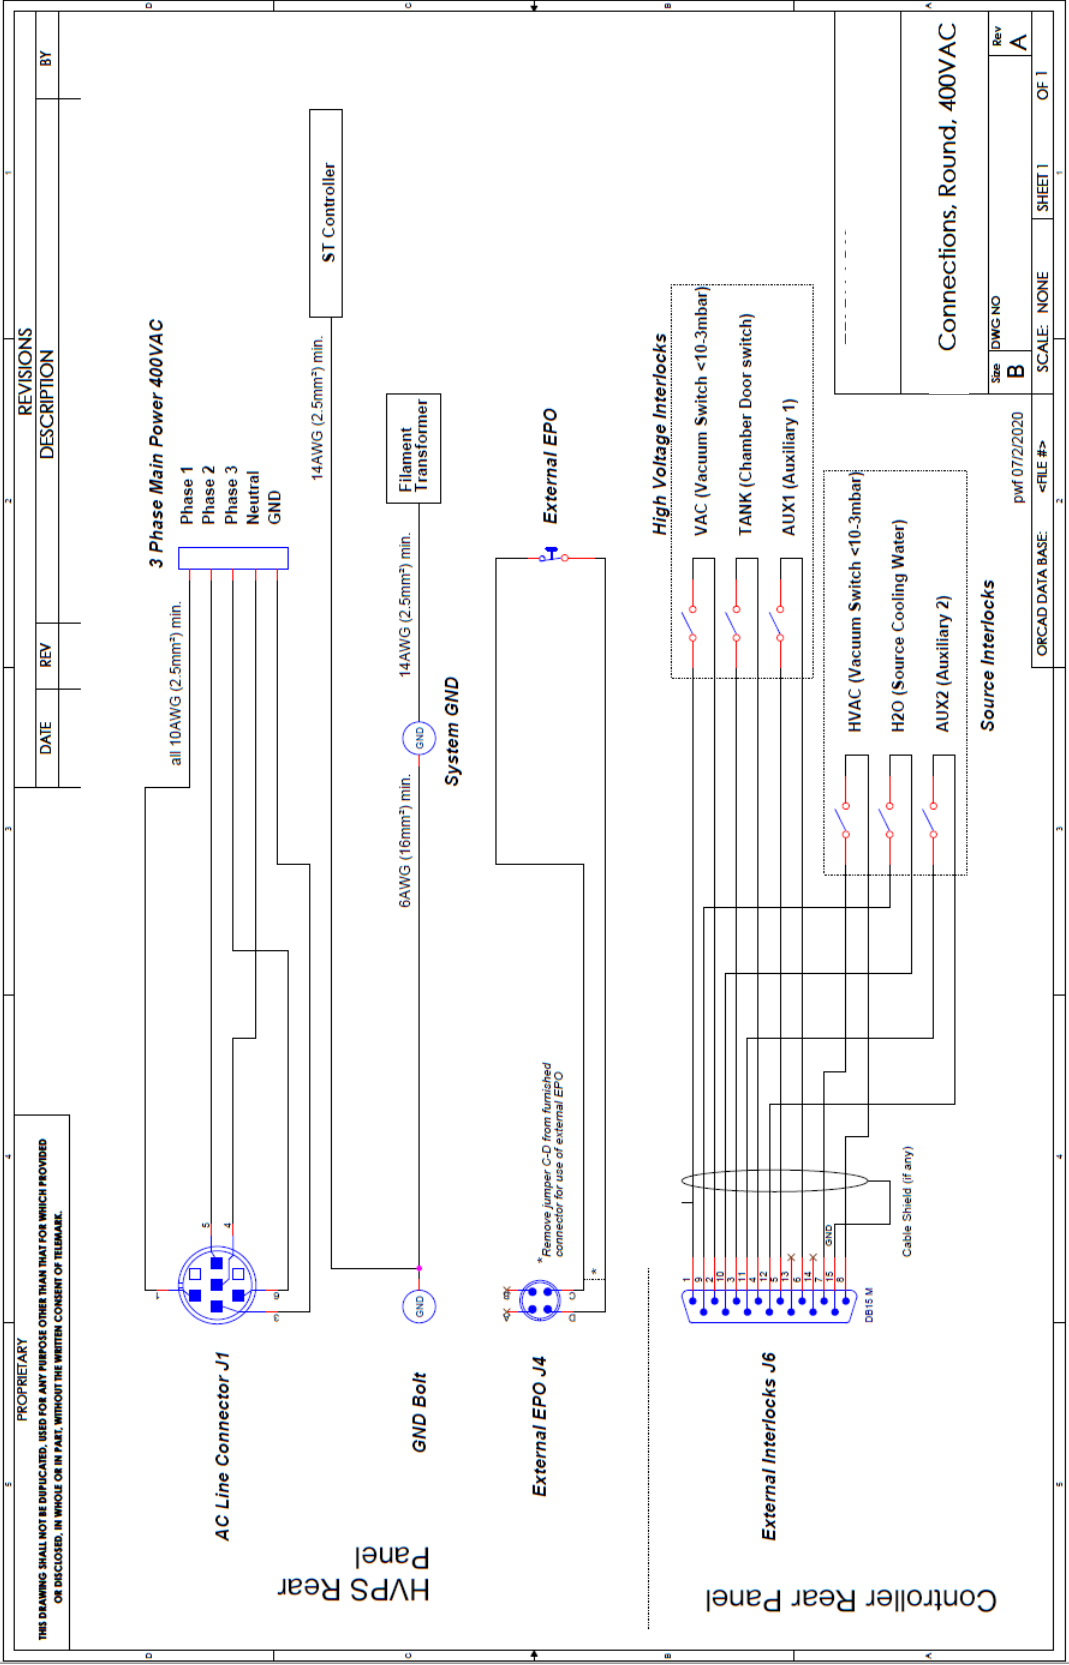

Figure 9-2, Connections SVA series 400VAC Round Version
- Figure 9-2 208VAC Connections SVA-4/6/8/10/12, Round